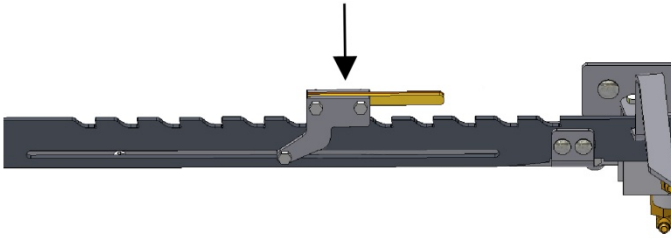

Figure 38 – Adjustment of the hoop activation (return of the pusher)
1. Place the stopper for the return of the pusher in the 7th position from the back of the wrapper (Figure 38).